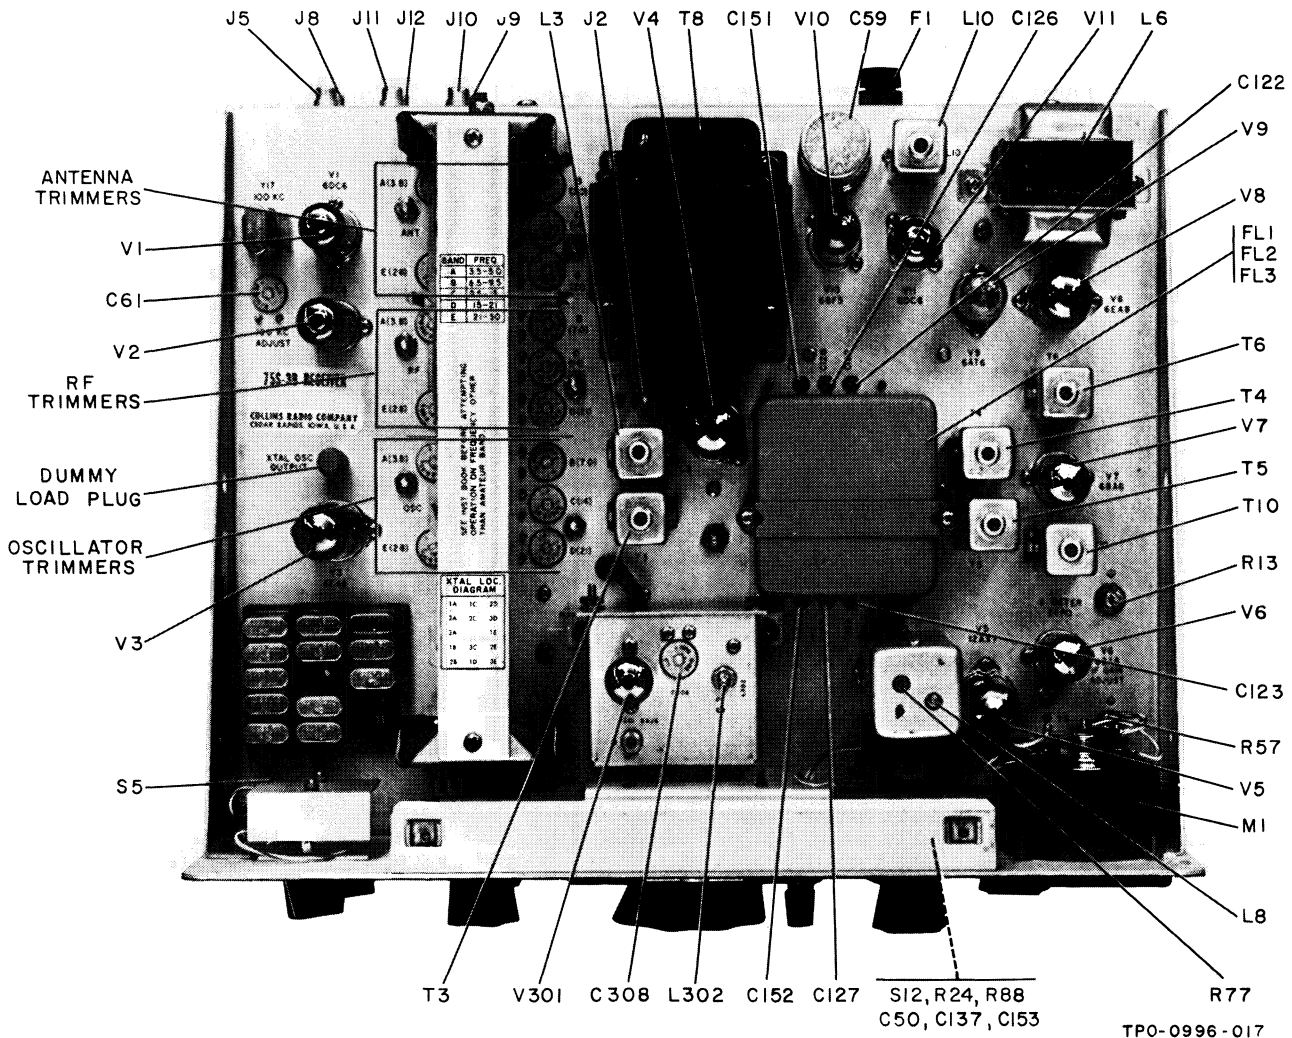

Figure 4-1. Location of Adjustments
source and the S-meter as a peak indicator. To provide a variable output attenuator for the calibrator, connect a 0.001-uf capacitor to one end of a 5000-ohm carbon potentiometer. Temporarily connect the free end of the capacitor to tube socket terminal 5 of V1, the crystal calibrator. Connect the rotating contact of the potentiometer to ground. Figure 4-1 shows the location of adjustments except for the filter input and output trimmer capacitors. These trimmers are located under the chassis adjacent to the mechanical and crystal filters. The rotary ceramic trimmers used in the receiver are at maximum capacity when the large notch is positioned midway between the two mounting screws. Rotation in either direction from this position reduces capacity with minimum being at 180 degrees from maximum.
- b. Set both A (3.8) RF and ANT trimmer capacitors so the large notches point to approximately 2 o'clock when viewed as shown in figure 4-1. Set the A (3.8) OSC trimmer so the large notch points to the rear of the chassis.
- f. Adjust E (28) OSC, RF, and ANT trimmer capacitors for peak S-meter reading. Adjust OSC trimmer first.
- h. Adjust D (21) OSC, RF, and ANT trimmers for peak S-meter reading. Adjust OSC trimmers first.
- j. Adjust C (14) OSC trimmer for peak S-meter reading.
- l. Adjust C (14) RF and ANT trimmers for peak meter reading. Maintain S-3 signal level.